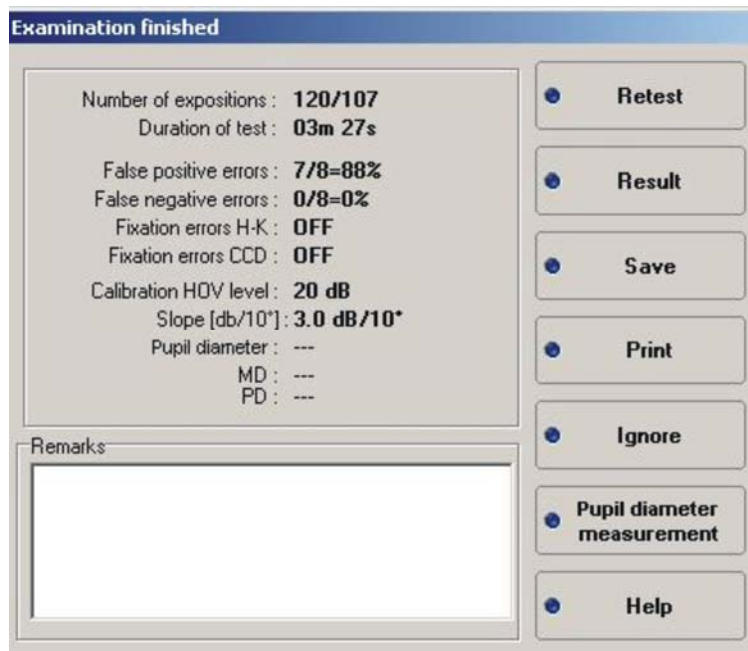

Fig. 17
- After testing the right eye, press the "Save" button (refer to Fig. 17, page 26).